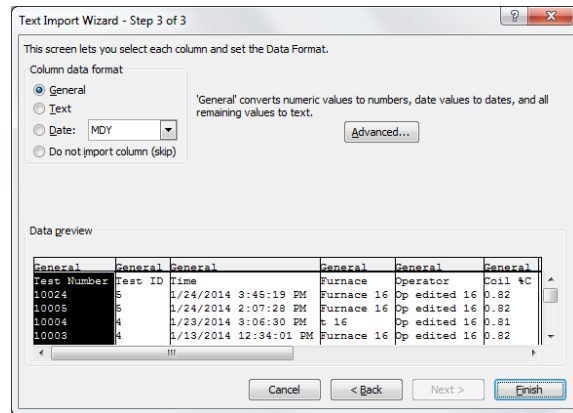

Figure 49 - Importing CSV file in Microsoft Excel (Step 3 of 3)
5. The “Column data format” can be configured for each column using the options in Excel (Figure 49). “General” format should work well in most cases. Click **Finish** when ready.